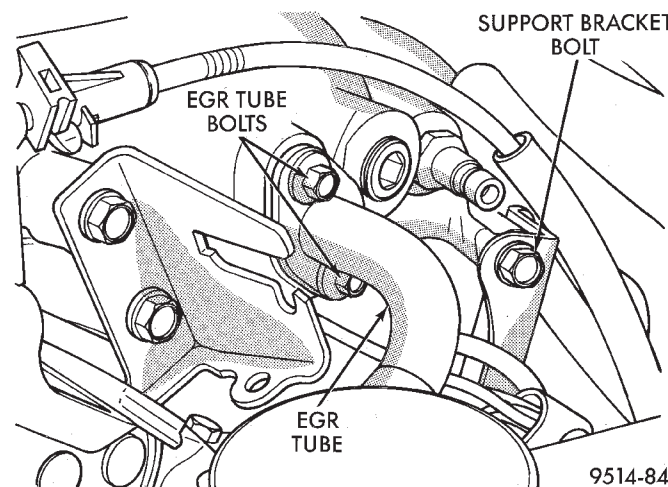

Fig. 26 EGR Tube and Right Manifold Support Bolt
(13) Remove EGR tube from intake manifold (Fig. 26).
(14) Remove plenum support bracket bolt located rearward of EGR tube (Fig. 26).